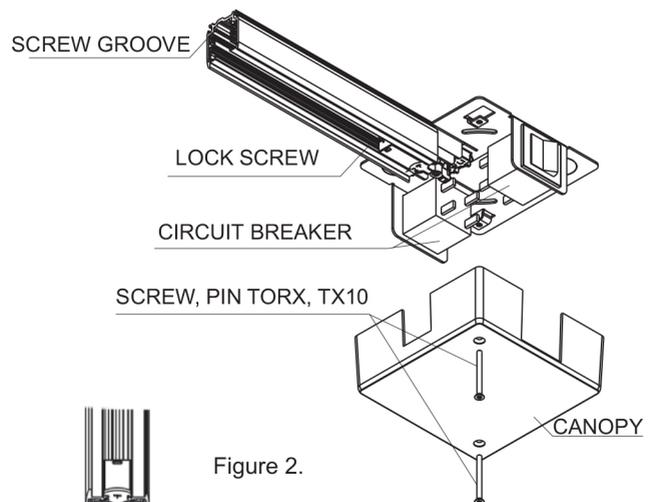

Figure 2.
6. Make proper electrical connections. Connect as follows: As shown in figure 2: